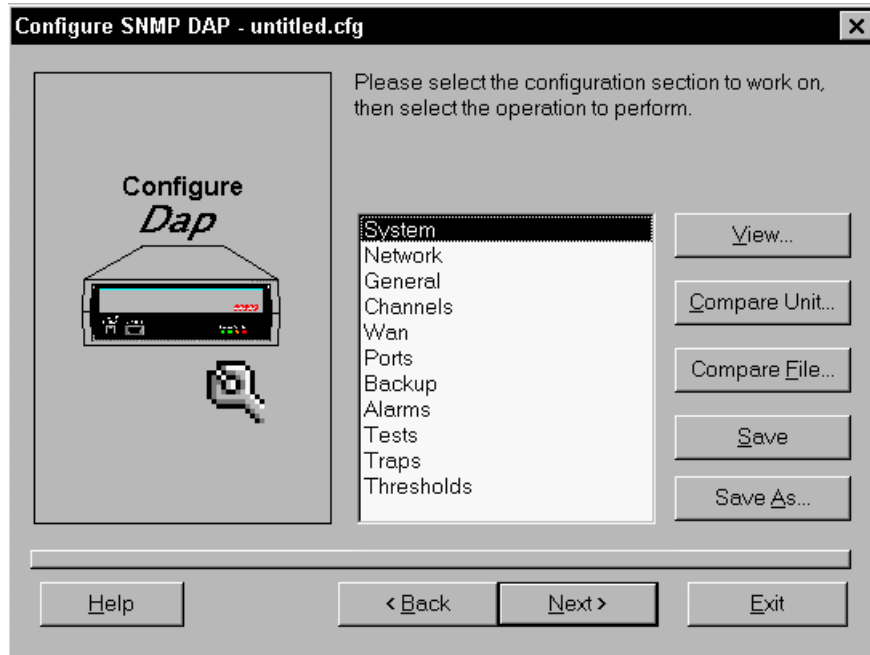

Figure 4-3. Configure DAP Main Screen
4. The Configure DAP main screen appears. (See Figure 4-3.) Select the section of parameters you want to configure and click Next.
If you are configuring a 6456 DAP, the Configure DAP main screen (Figure 4-3) appears with the unit name in the heading. Proceed to step 7.
The Configure DAP main screen (Figure 4-3) appears with the unit name in the heading.